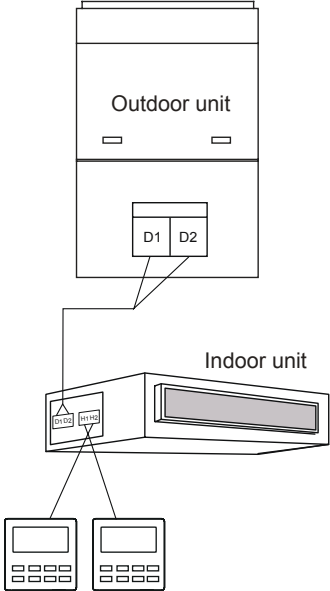

Fig. 3.4 Two wired controllers control one indoor unit
- (1) When one wired controller controls multiple indoor units simultaneously, the wired controller can connect to any one indoor unit, but the connected indoor unit must be the same series indoor unit. The total quantity of indoor unit controlled by wired controller can't exceed 16 sets, and the connected indoor unit must be within the same indoor unit's network.
- (2) When two wired controllers control one indoor unit, the addresses of those two wired controllers should be different. Please refer to 3.2.3 parameter setting.
- (3) When two wired controllers control multiple indoor units, wired controller can connected to any one indoor unit, while the connected indoor unit should be the same series indoor unit. The addresses of those two wired controllers should be different. Please refer to 3.2.3 parameter setting. The total quantity of indoor unit controlled by wired controller can't be more than 16 sets and all connected indoor units must be within the same indoor unit network.
- (4) When one (or two) wired controller(s) control(s) multiple indoor units at the same time, the controlled indoor unit's setting should be the same.
- (5) Wiring of wired controller and indoor unit network must be according to one of the four wiring method as shown in fig 3.3-3.6. As for the connection method shown in fig 3.4 and 3.6, there should be only one master wired controller (address is 01) and one slave wired controller (address 02). The quantity of wired controller can't exceed two.